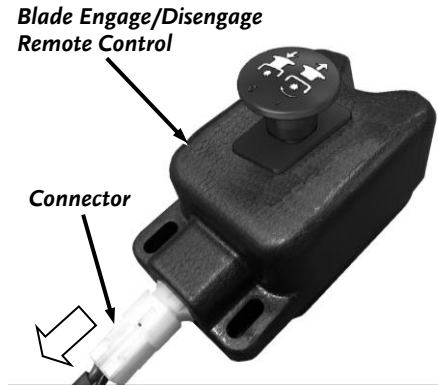

Figure 23
1. Pro and Pro XL model: Remove the Connector from the Blade Engage/Disengage Remote Control (**Figure 23**).
9. Pro and Pro XL model: Plug the Connector into the Blade Engage/Disengage Remote Control (**Figure 23**).